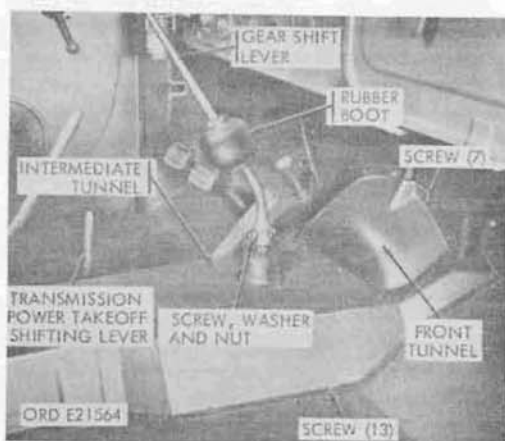

Figure 99. Tunnel and gearshift lever
- (1) Raise the transmission gearshift lever boot (fig. 99) and remove the screw, washer, and nut holding the lever to the transmission. Remove lever and rubber boot.
- (2) Remove front and intermediate tunnel (fig. 99). Remove 13 screws holding intermediate tunnel to the front tunnel, the rear tunnel, and the cab floor, and remove the tunnel. Remove seven screws securing the front tunnel to the firewall and cab floor, and remove the tunnel.